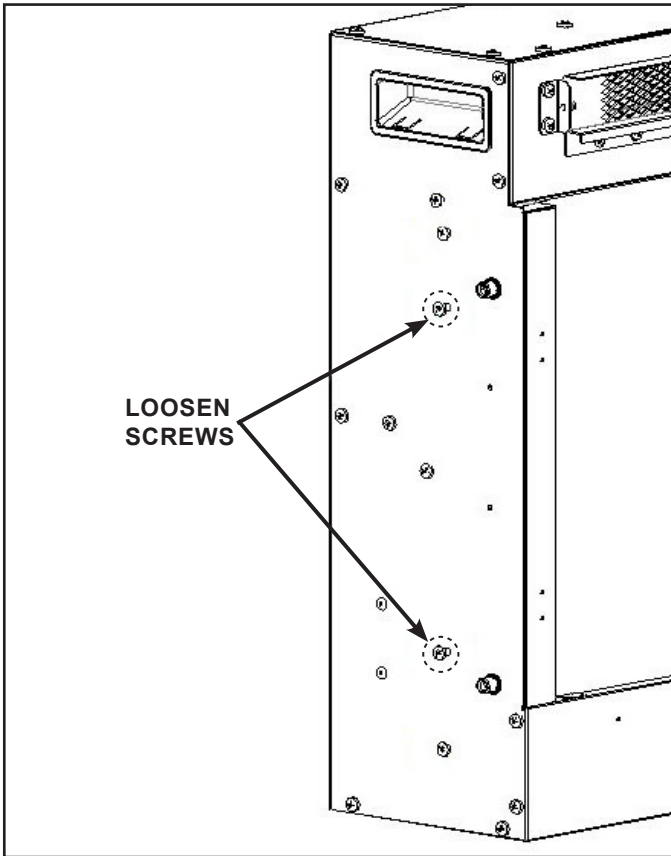

Figure 2 Loosen Screws on Side Panels
2. Loosen the two screws on the side panels on the appliance. See Figure 2.